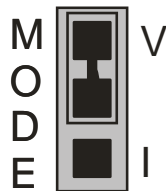

Figure 3. Mode V-I jumper
The jumper labeled **MODE V-I** sets the input type to either voltage (V) or current (I) (Figure 3). Move the jumper from **V** to **I** *only* if you have installed the CIO-DAS48-ISIP kit.